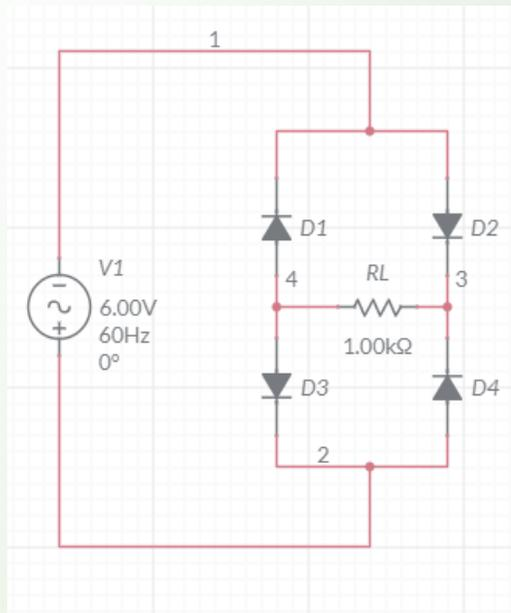

Figure 1.8: Output at RL
3. Measure the output(V_o) across R_L and calculate the V_o in Figure 1.8.